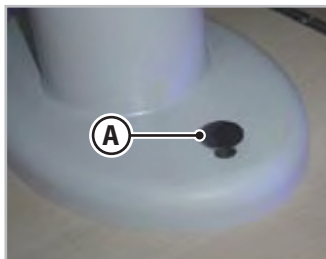

Fig. 6.25 - Telescopic leg
1. Use your foot to press the button (A - Fig.6.25) at the base of the table.